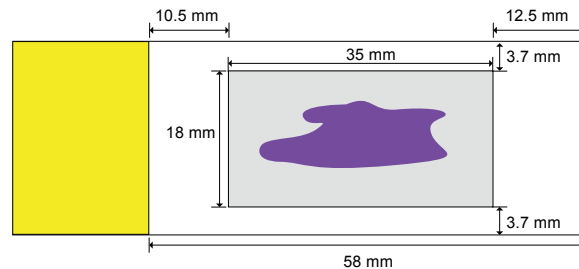

FIGURE 2-2: Fresh Frozen Tissue Placement Guide
7. Gently place the tissue section in the center of the slide within the imageable area as shown in grey patterned rectangle below in FIGURE 2-2.
NOTE Make sure that the tissue section is placed in the center of the slide, as shown in FIGURE 2-2. Print this page out and use the true-to-size figure below as a guide. Tissue under the adhesive portion of the flow cell will affect bonding and likely fail. This could result in a leaking flow cell and hence loss of the tissue slide. Additionally, ensure the tissue is placed on the positively charged side of the slide to ensure proper adhesion.